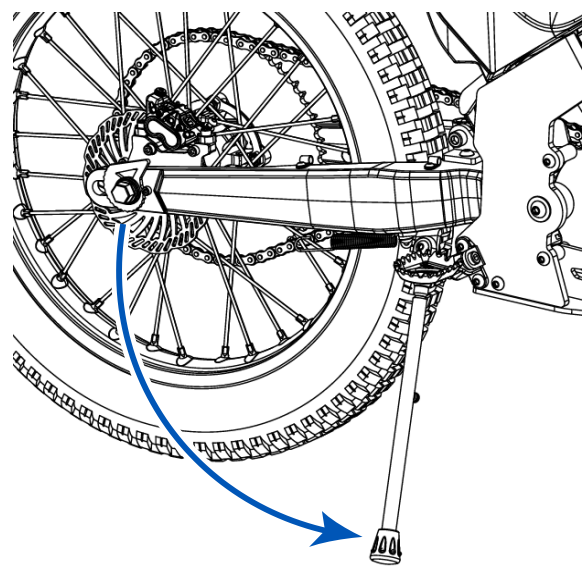
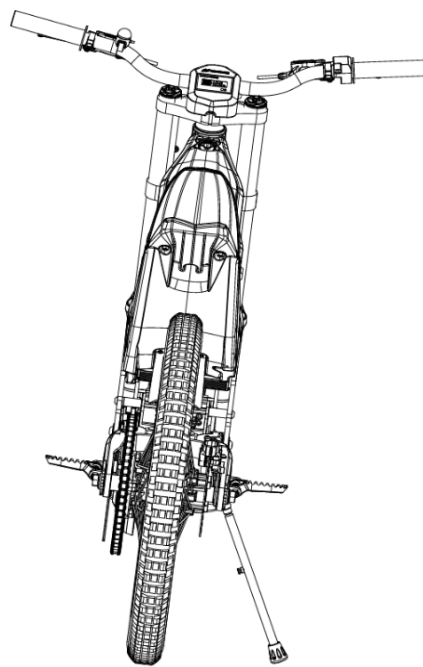

Fig. 13a
Fig. 13b
13. Once the center stand has been removed, the motorcycle must be placed in an upright position and the folding side stand must be lowered (Fig. 13a), to keep the motorcycle fixed and prevent it from falling (Fig. 13b). You must ensure that the motorcycle is placed on a flat surface.